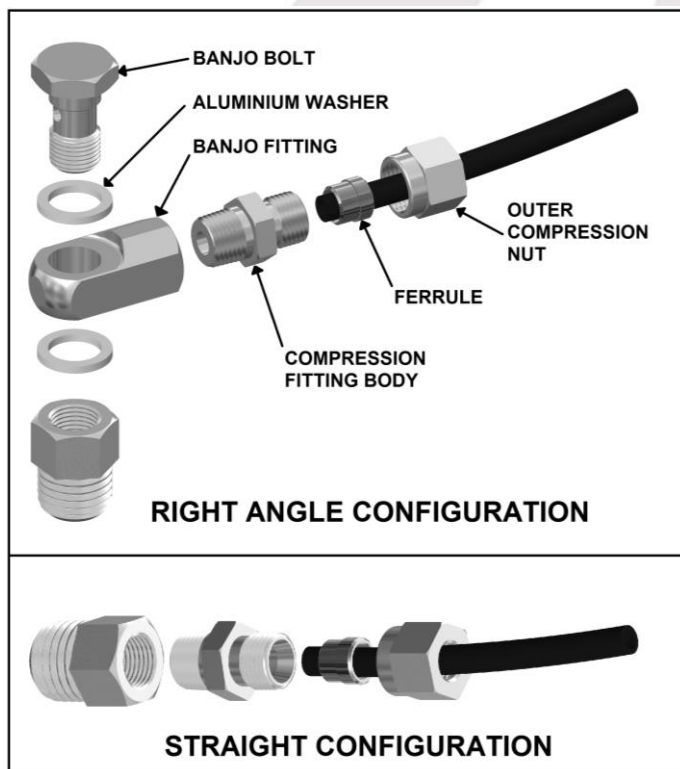

Figure 28.
- Assemble an aluminium washer onto the banjo bolt and insert through the banjo fitting. Assemble second aluminium washer and tighten into bulkhead fitting using a 14mm [9/16"] spanner. (Fig.28.)
- Insert the outer compression nut and ferrule over the air line. Ferrule should be orientated as per Fig.28.
NOTE : When right angle routing of the tube is not required, screw the compression fitting body straight into the bulkhead fitting body (Fig.28.).